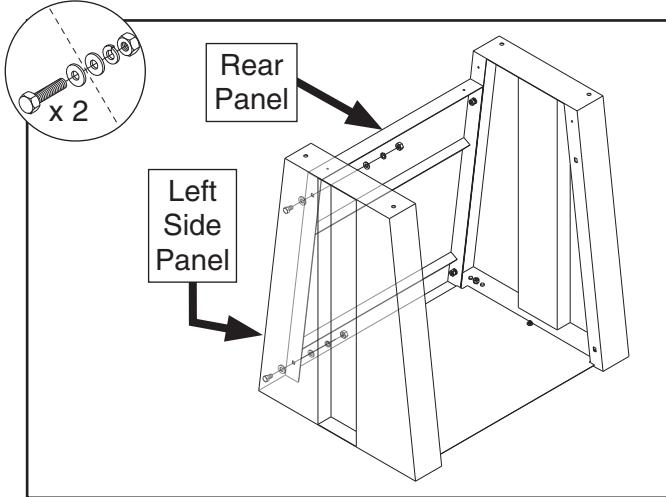

Figure 10. Left side panel attached to rear panel.
- Attach left side panel to rear panel with (2) M8-1.25 x 25 hex bolts, (4) 8mm flat washers, (2) 8mm lock washers, and (2) M8-1.25 hex nuts (see **Figure 10**).